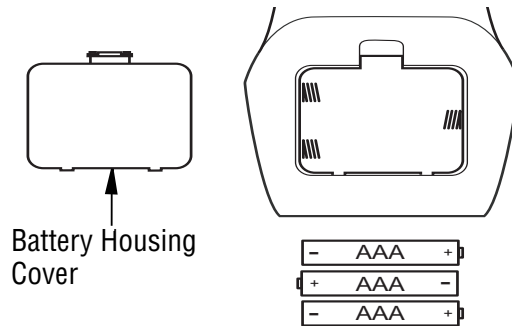

Figure 20 - Battery Install Hand-Held Remote Control
- Remove battery housing cover from back of hand-held remote (see *Figure 20*).